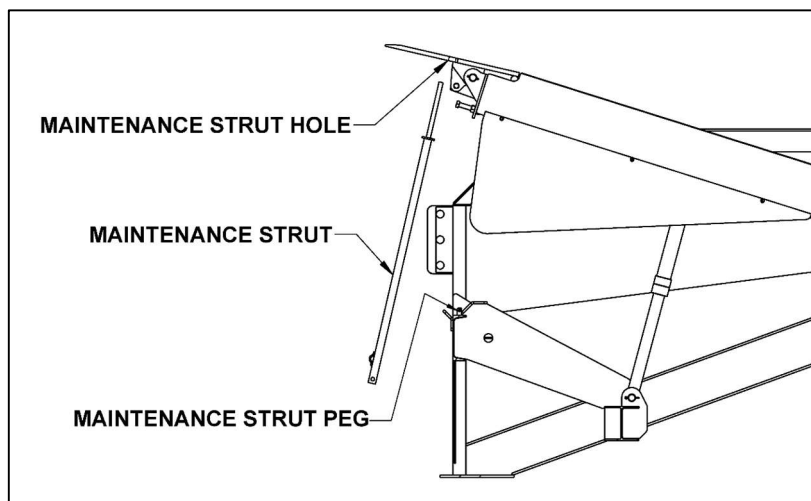

Figure 12a: Inserting the Maintenance Strut
1. Press the RAISE button to fully raise the leveler platform. The RAISE button will remain pressed until step 4 is complete. See Figure 12a.